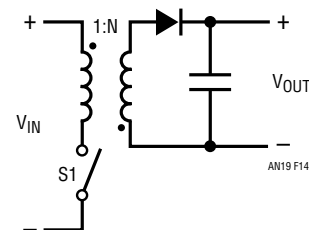

Figure 14. Flyback Converter
Flyback regulators (Figure 14) use a transformer to transfer energy from input to output. During S1 "on" time, energy builds up in the core due to increasing current in the primary winding. At this time, the polarity of the output winding is such that D1 is reverse biased. When S1 opens, the total stored energy is transferred to the secondary winding and current is delivered to the load. The turns ratio (N) of the transformer can be adjusted for optimum power transfer from input to output.